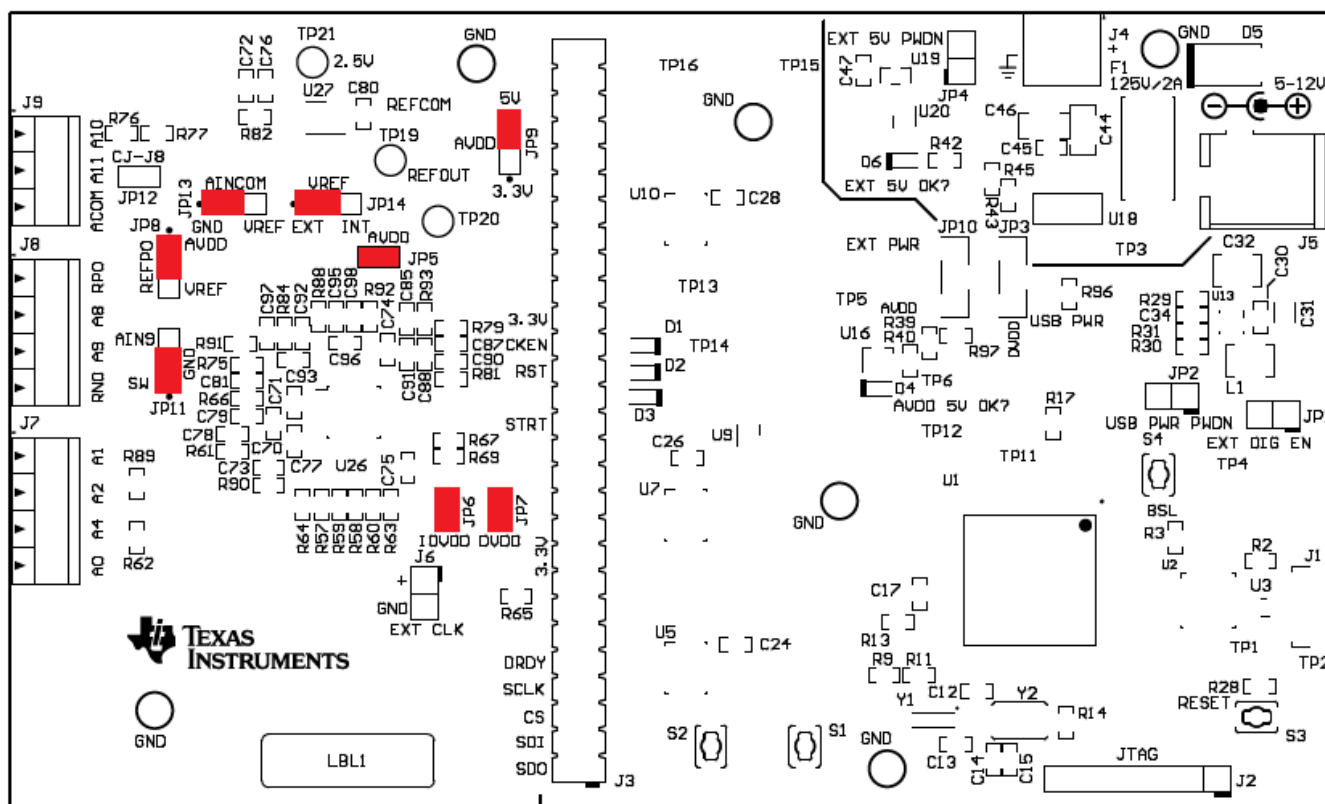

Figure 2. ADS1x4S08 EVM
The EVM should come configured with the settings listed in Table 2 and illustrated in Figure 2.
3. Ensure all jumpers and switches are configured in the default configuration per Table 2 and Figure 2.